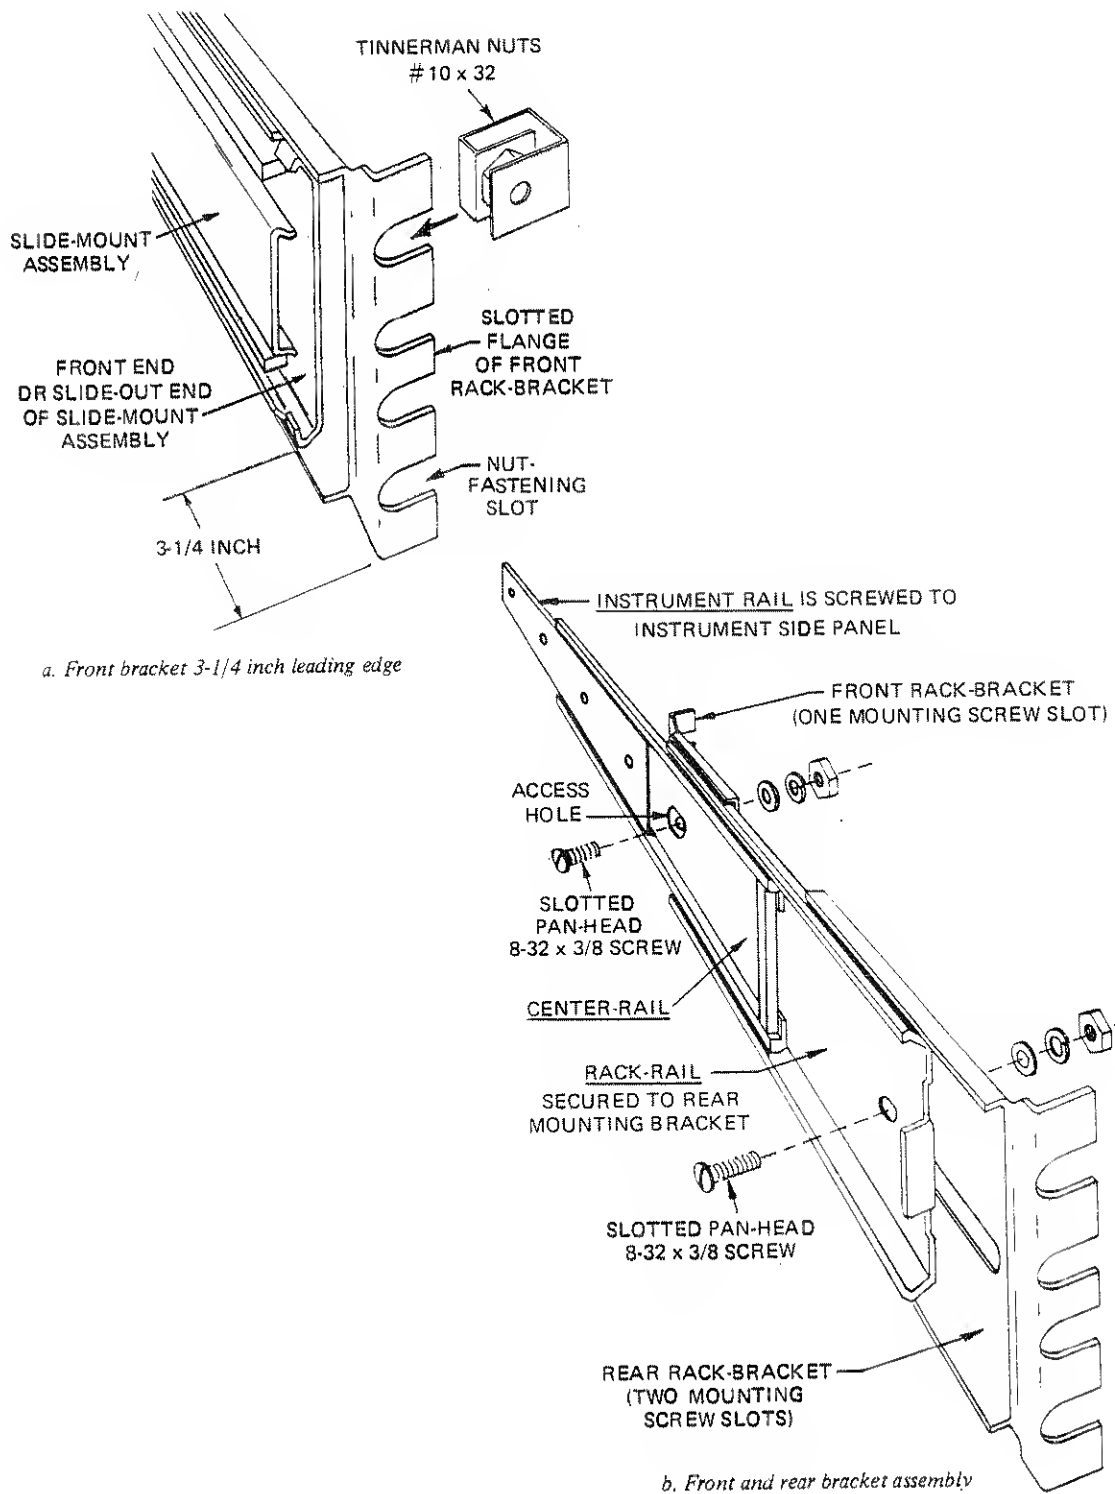

Figure 2-7A,B - Slide-Mount and Bracket Assembly
- a. Front rack-brackets (2); part of P/N 454488
- b. Rear rack-brackets (2); part of P/N 454488
- c. Triple-rail slide-mount assemblies (2); P/N 454489
- d. Self-anchoring #10-32 tinnerman nuts (12); P/N 610920
- e. Phillips panhead #10-32 x 1/2 screws (8); P/N 615091
- g. Phillips panhead self-tapping #8-32 x 5/16 screws (4); P/N 610910
- h. Phillips panhead #10-32 x 3/4 screws (4); P/N 615093
- 2.7.2.2 Refer to Figure 2-7A/B. Prepare the triple-rail slide-mount assembly for equipment rack installation. First, note that the instrument-rail and rack-rail holes are accessible either directly or through the enlarged holes in the center-rail (as the assembly is extended or retracted). Complete the following procedure: